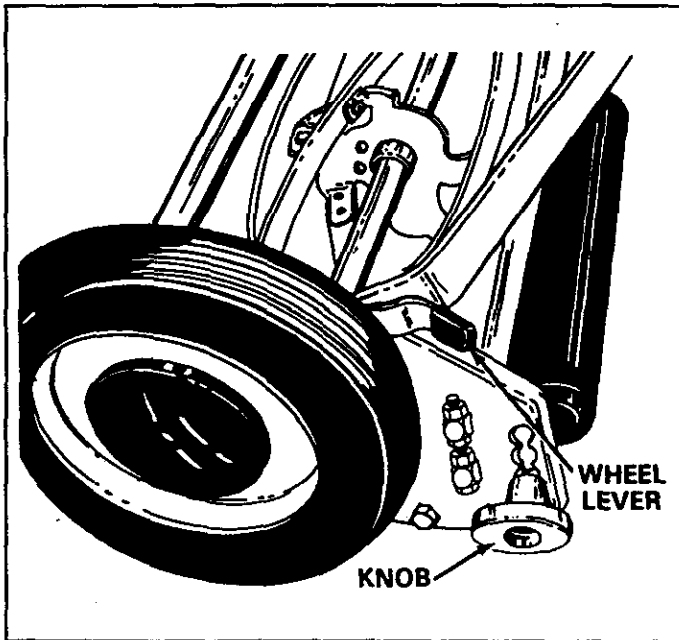

FIGURE 5
- Each wheel has a height adjustment lever with five positions. To move the lever, tilt the mower back on the roller. Press the levers (one at a time) outward from the mower and move the lever to the desired position. Both levers must be in the same relative position. See figures 5 and 6.
- To adjust the roller, tilt the mower forward and loosen both the knobs on the roller at least two full turns. Move the roller to the desired position. Both roller knobs must be in the same relative position and tightened until firmly seated in the notches. See figures 5 and 6.